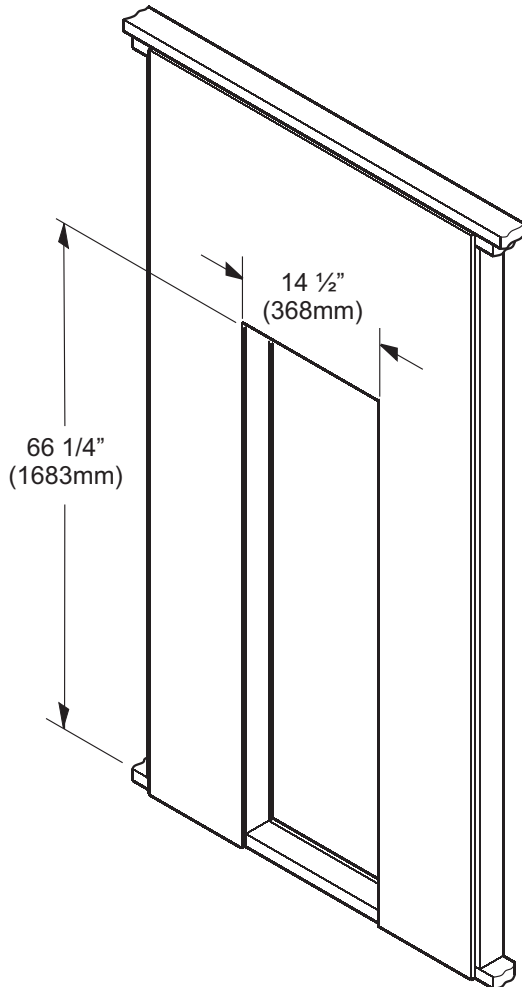
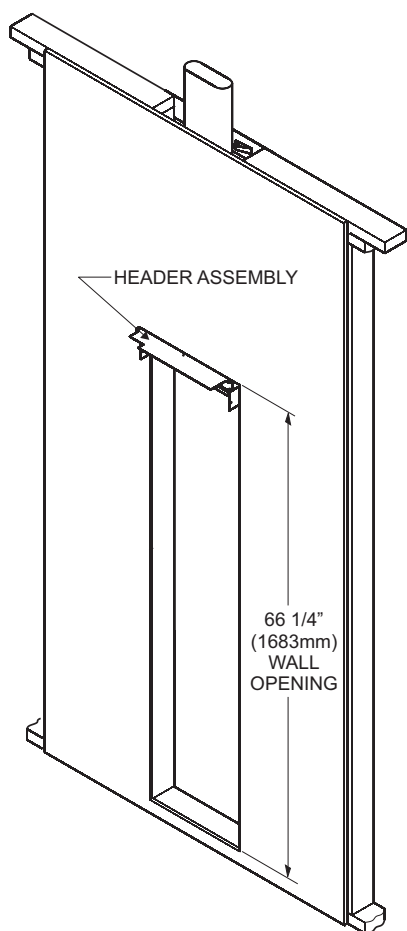

Figure 14
Figure 19
1. Provide an opening in the wall 14 1/2" (368 mm) wide and 66 1/4" (1683 mm) high measured from top of floor plate (See Figure 14 and Figure 19). Wall depth is to be 2" x 4" framing with 1/4" (6.5 mm) to 5/8" (16 mm) sheathing.